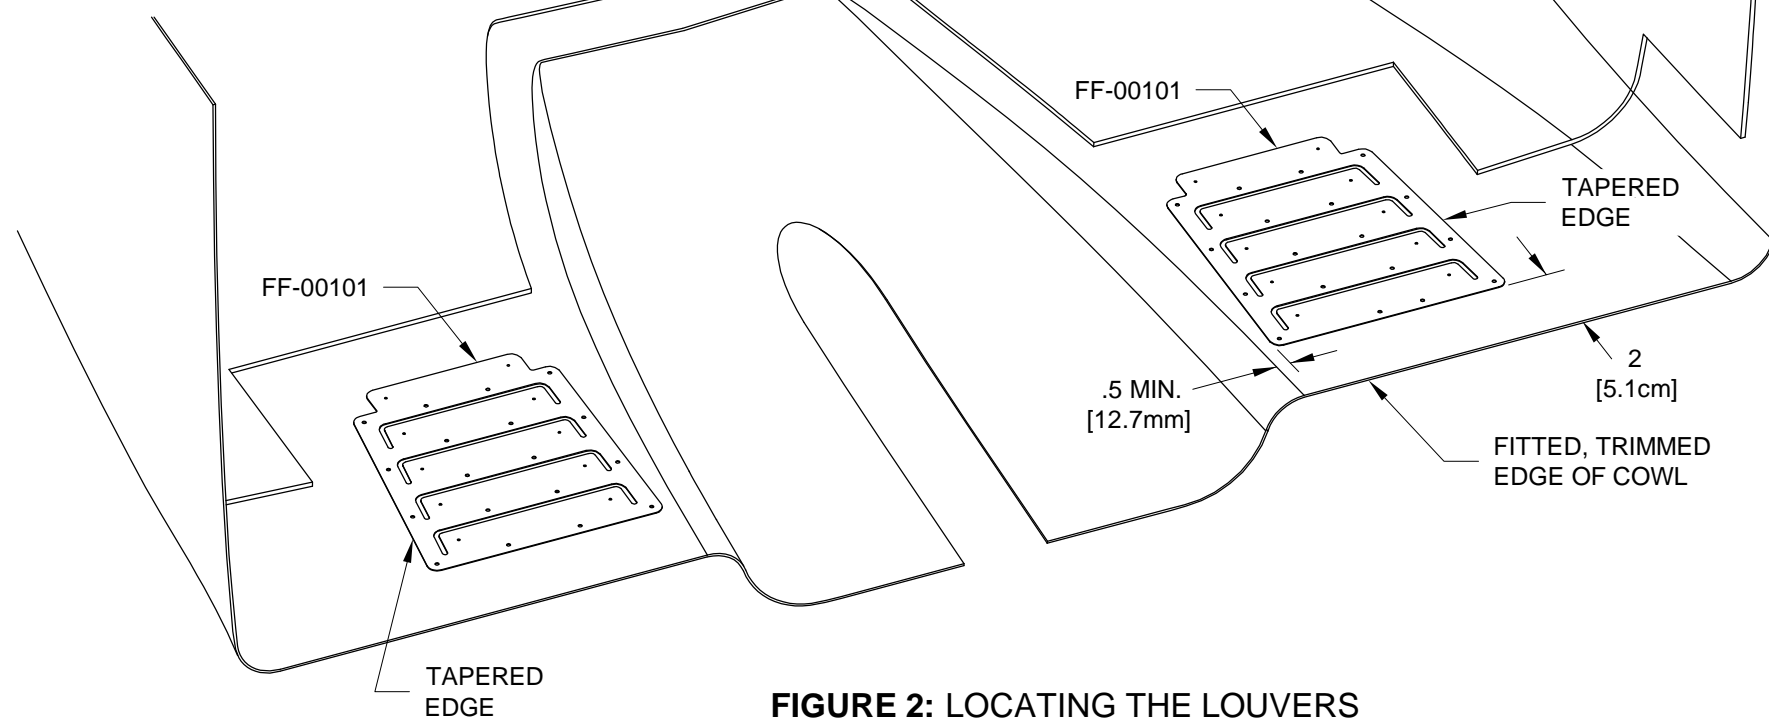

FIGURE 2: LOCATING THE LOUVERS
Step 4: Locate the FF-00101 Louvers on the bottom cowl as shown in Figure 2. Sand any areas of the cowl that prevent the louvers from lying flush against it.